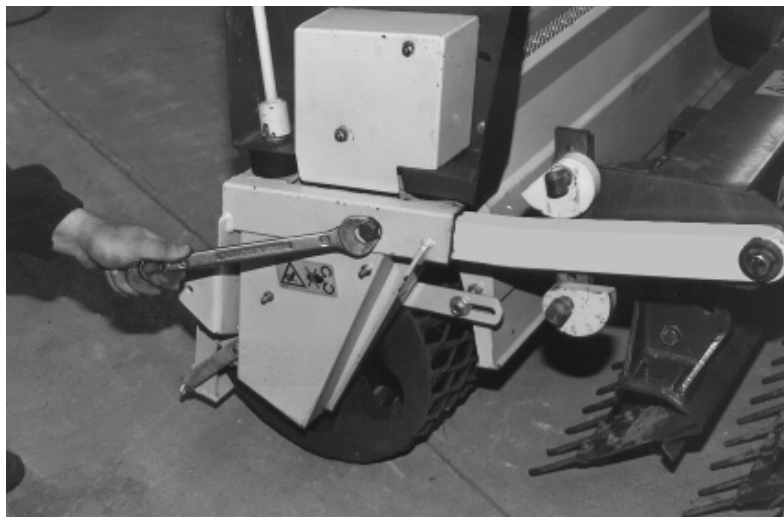

fig. 8
- Remove the bracket locking screws (Fig. 8).